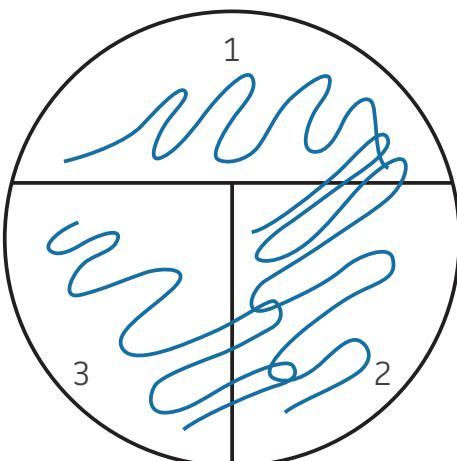

Figure 5: How to inoculate a streak plate
- 8 Streak out the culture onto section 1 of your plate (See: FIGURE 5). Return the petri dish to its lid.
- 10 Once cool, pick up the agar-half of the petri dish and pass the inoculation loop 1-3 times through section 1, dragging the culture through section 2 multiple times. Be sure your streaks do not overlap (See: FIGURE 5). Return the petri dish to its lid.
- 12 Once cool, pick up the agar-half of the petri dish and pass the inoculation loop 1-3 times through section 2, dragging the culture through section 3 multiple times. Be sure your streaks do not overlap (See: FIGURE 5). Return the petri dish to its lid.